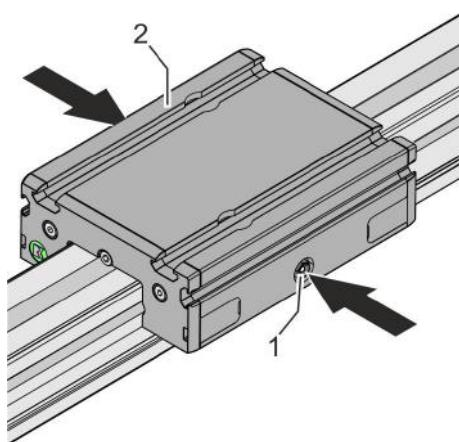

Fig. 39: Lubricating the guide shaft
- Clean the lubrication points (Fig. 39/1) on both sides of the guide carriage (Fig. 39/2).
Place the oil press on the lubrication nipples (Fig. 39/1) on both sides of the guide carriage (Fig. 39/2) one after the other and lubricate the guide carriage.
3. ➔ Move the guide carriage (Fig. 39/2) several times to distribute the lubricant evenly.